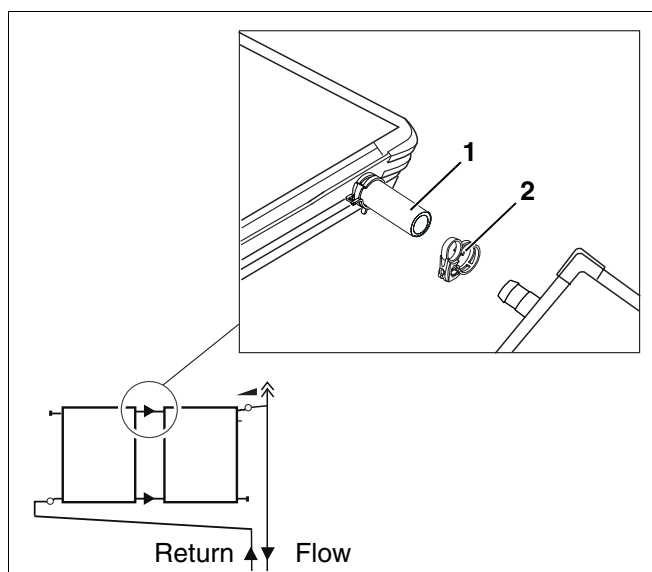

Fig. 35 Pull the hose clip over the solar hose.
As standard, the hose clip is fitted (Fig. 35, **Item 2**) to the solar hose (Fig. 35, **Item 1**).
- ▶ Before inserting the next collectors, push the hose clips (Fig. 35, **Item 2**) over the pre-assembled solar hoses (Fig. 35, **Item 1**).
Ensure that the second hose clip (Fig. 35, **Item 2**) is located on the solar hose.